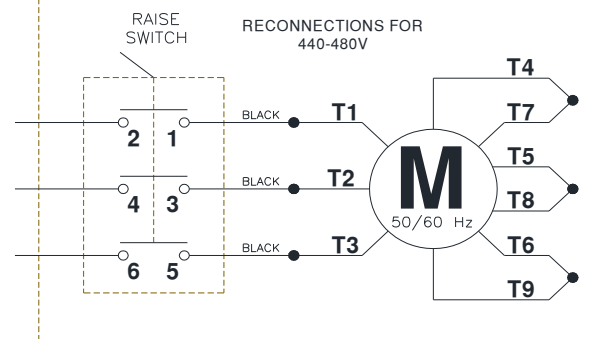

Fig. 13 – Electrical Wiring Diagram
- 36) Refer to Fig 13 Wiring Diagram for all steps under this heading.